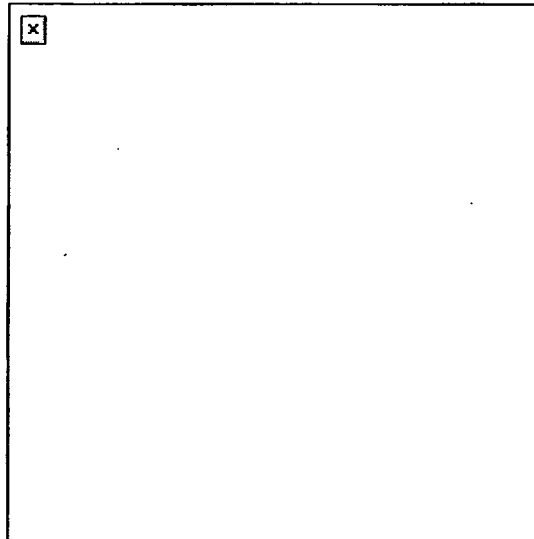

Figure 1. Positioning the tripod.
- b. Open and lock the rear legs of the tripod in the open position (Figure 1).